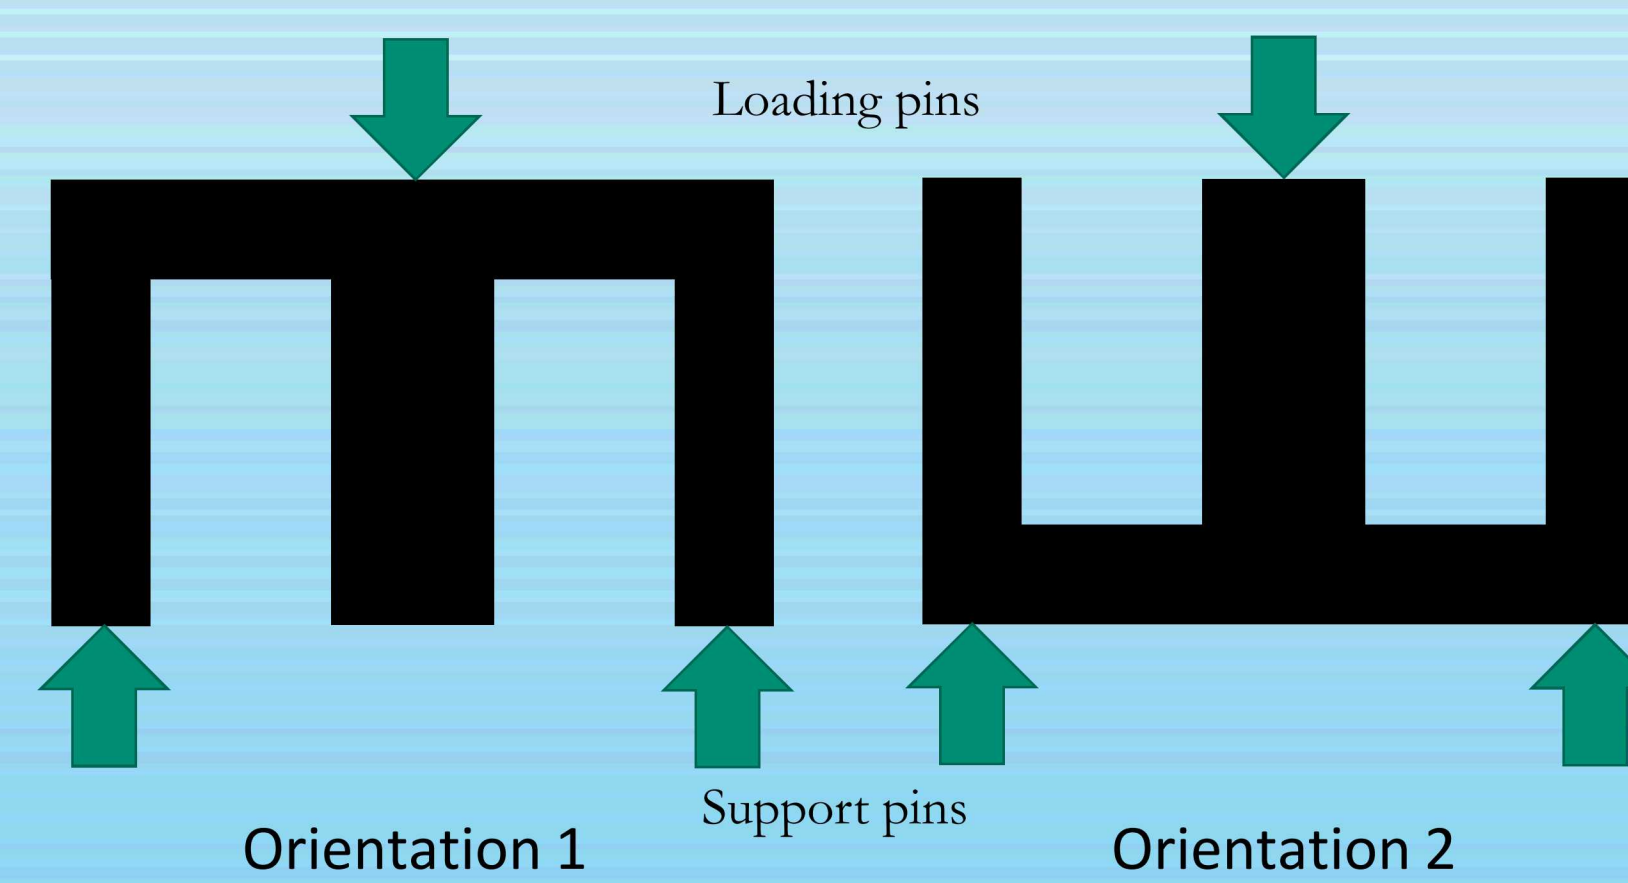

Figure 2. Orientations of the three point bend test
- Two orientations were used in testing to investigate the two outcomes that were of interest (Fig. 2)